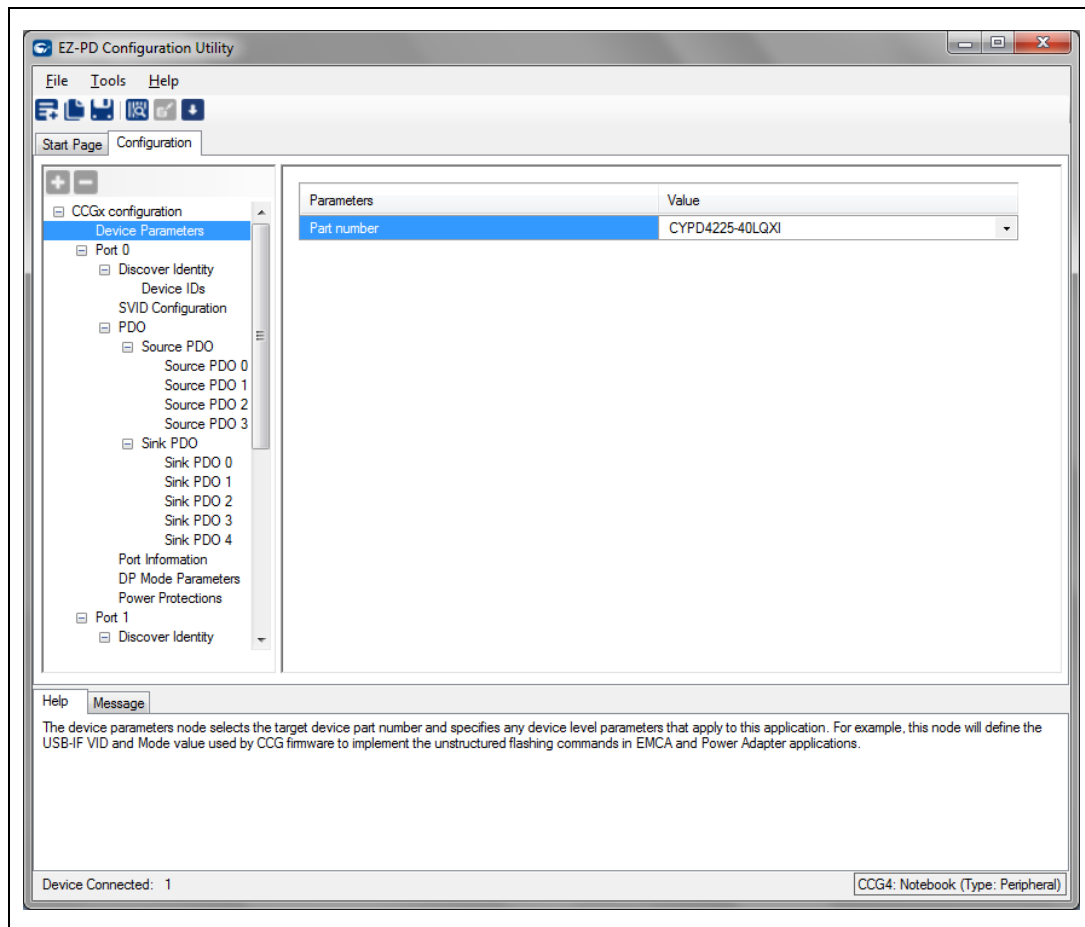

Figure 16 Existing Configuration Table of CCG4 device in CY4541 CCG4 EVK
1. The existing configuration will now be read, and will be displayed in the utility in a tree under **CCGx Configuration** in the left panel as in **Figure 16**. Device configuration parameters are classified into Device Parameters, Port Parameters, and User Parameters. For multi-port devices there will be multiple copies of the port parameter entries. Port parameters are further classified and grouped into a hierarchical tree structure.